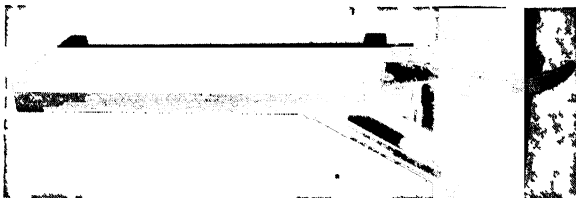

FIG. 22-21. Small utility platform. (Courtesy A. B. Chance Co.)
**Platform.** The platform is small and collapsible and may be secured to the pole or tower. Figure 22-21 shows a small utility platform, and Fig. 22-22 shows a more elaborate type designed for hot-line work. This platform is equipped with a hand railing. Its use enables the lineman to